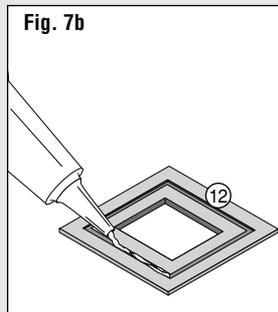

Fig. 7b
- Apply glue in grooves on Upper Tower Base ⑫ (Fig. 7b).